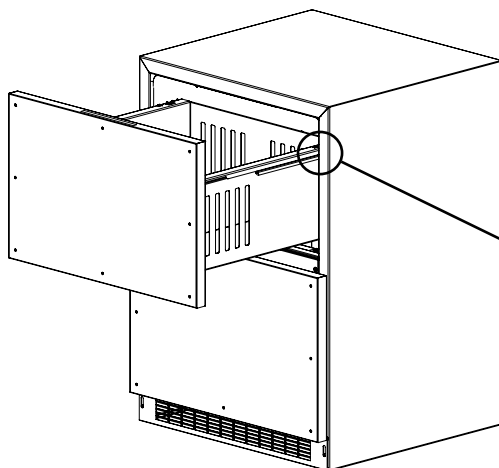
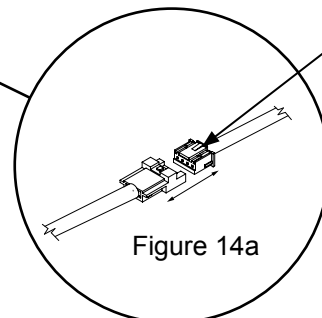
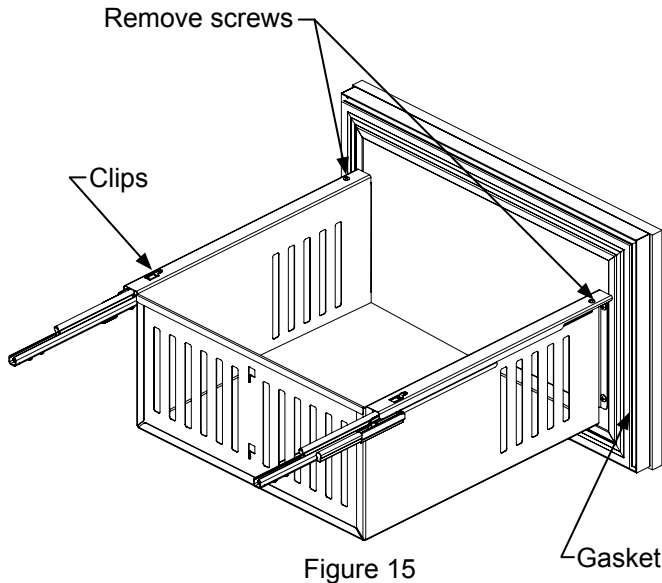

Figure 14
Figure 14a
Figure 15
1. Begin by pulling out the top drawer. (See Figure 14). Remove screws securing drawer to slides (See Figure 15). Pull drawer forward, lift up and out to clear clips in rear of drawer. Move drawer forward about 1" (2.5 cm) and set down on slides. At the right rear corner of the drawer disconnect the display wire harness (See Figure 14a). Remove the drawer from the unit by lifting up off of the slides. Repeat for bottom drawer but disregard the harness instructions as there is no wiring to the bottom drawer.
2. Remove the drawer divider from the drawer and remove the gasket from the drawer front. (See Figure 15). Do this by pulling the gasket out of the channel that holds it to the drawer front. This will expose the clearance holes for mounting the overlay panel. (See Figure 19).